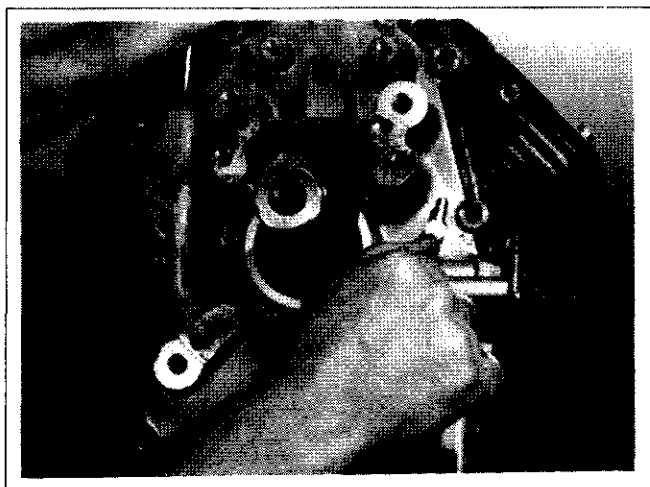

Figure 11-17. Using Spanner Wrench to Turn Crankshaft.
5. Install closure plate to crankcase. Carefully seat the camshaft with shim and crankshaft into their mating bearings. Rotate crankshaft to help engage oil pump and governor gear meshes. See Figure 11-17.